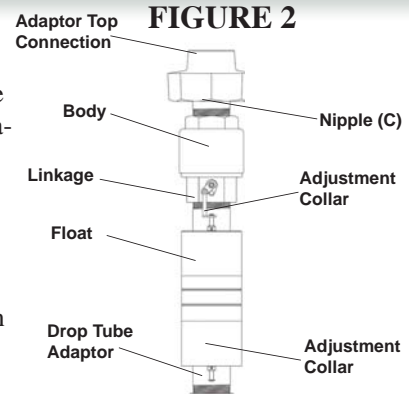

FIGURE 2
3. Find the SHUTOFF HEIGHT in Table 1. Use Table 1 to determine RISER PIPE HEIGHT FROM TOP OF THE TANK and proper NIPPLE LENGTH (for applicable stored fluid) required to adapt the unit to your application. Note: A 4" long nipple is provided with the valve. (See Nipple (C) on Figure 2).